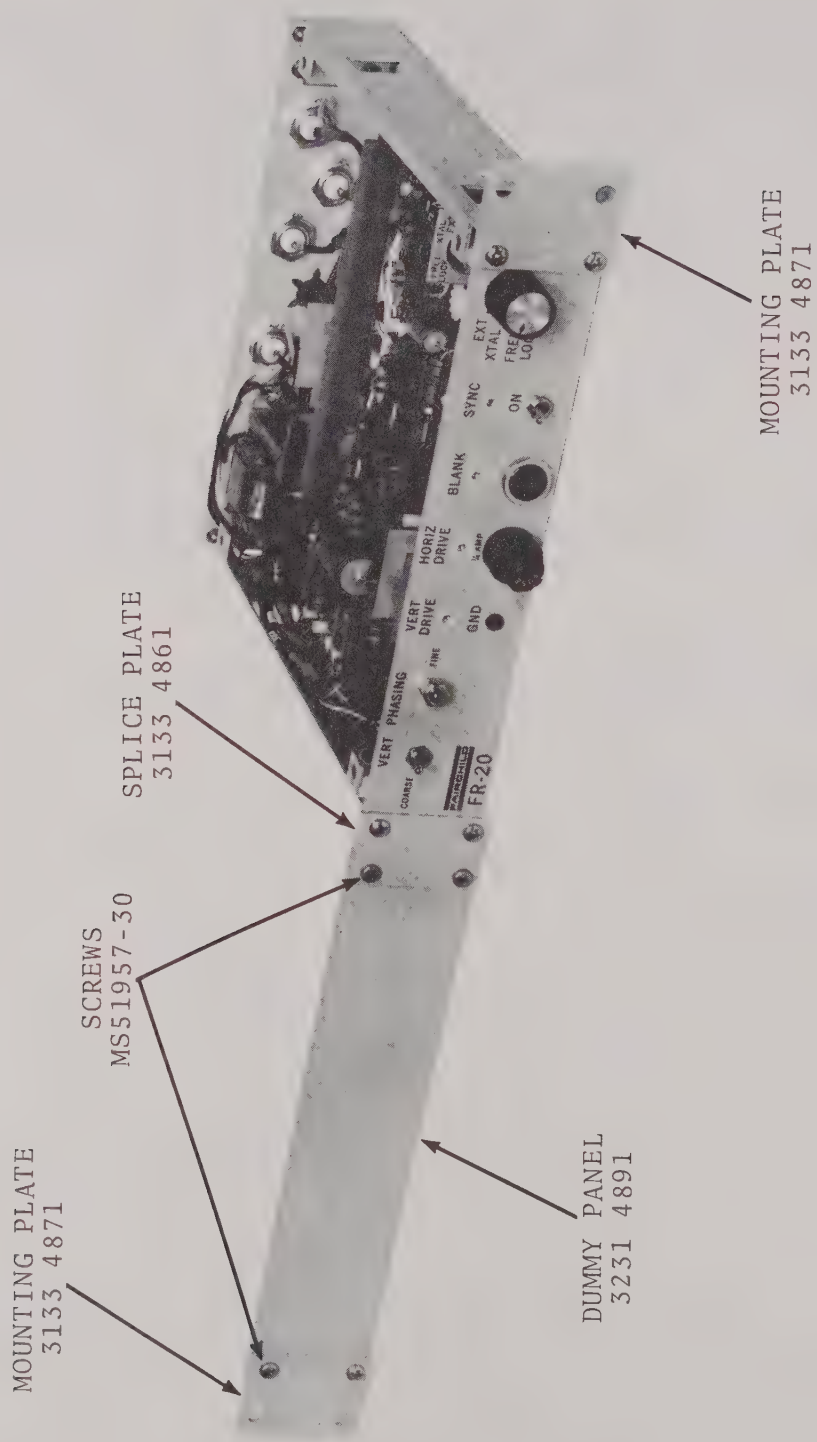

Figure 2-3. FR-20 Rack Mounting Kit
Rack Mounting Kits (FR-20)	See figure 2-3.
The FR-20 may be desk or shelf mounted. It can be adapted to a standard 19-inch rack by using the kit shown in figure 2-3.
3. Using the front panel screws, and the kit screws supplied, attach the rack mounting kit to the FR-20 front panel, as shown in figure 2-3. Another similar unit may be mounted side by side with the FR-20 in place of the dummy panel.